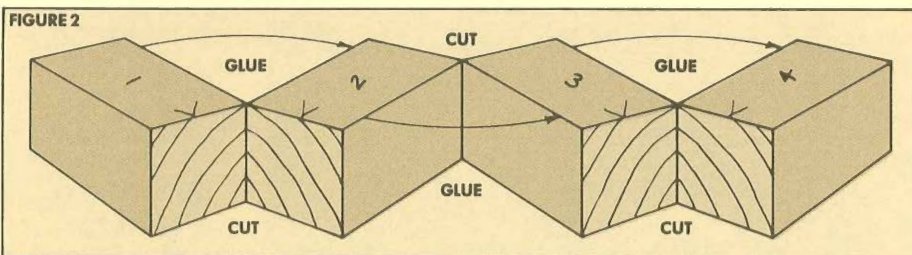

FIGURE 3
THE LEGS. The front legs are 18" long on the chair shown. However, if you want to alter the seat height (which is 16 $\frac{7}{16}$ ") you must adjust the length of the front leg. If you change the front legs, the back legs must be changed by the same amount. Also, when cutting the back legs to length, miter the tops at 6°, as shown in Fig. 3.
ANGLED MORTISES, BACK LEG. Laying out the angled mortises for the back rest (Fig. 3) is easier than it looks. Since the top of the back leg has been mitered at 6°, it's simply a matter of placing a try square on the top of this leg and marking a line down the side of the leg. Then the through mortises are laid out and cut as shown.
STEP 4. These eight sections are then glued up, paying close attention to the end grain pattern. Looking at the end of this block, the ring patterns should form a series of four half-circles, Fig. 3. If, during gluing, the blocks have slipped, you must carefully plane the surfaces flat.